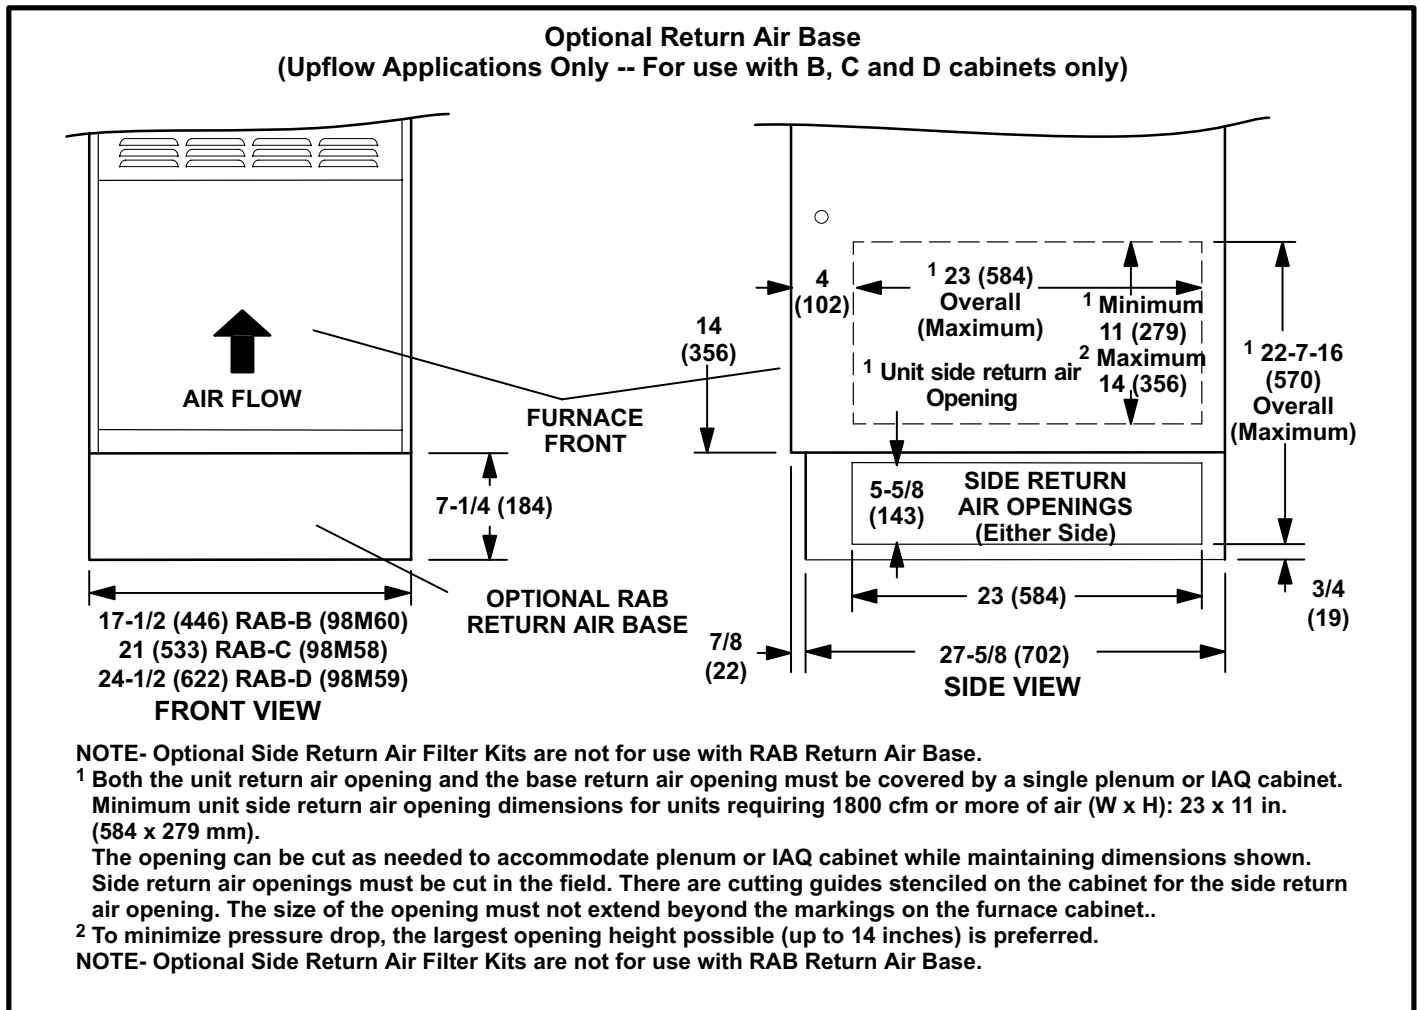

FIGURE 8
- 2 - Return air from single side with optional RAB Return Air Base. See figure 8.